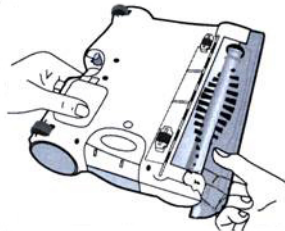

Fig. 13
4. Periodically, you may need to remove the transparent brush cover, located on the front of the power nozzle, and remove built up lint, hair, and dirt that may accumulate around the rotating brush. To remove the transparent brush cover, grip the cover and pull out and upward until the cover snaps off of the tabs located on the top of the power nozzle. (Fig. 13)